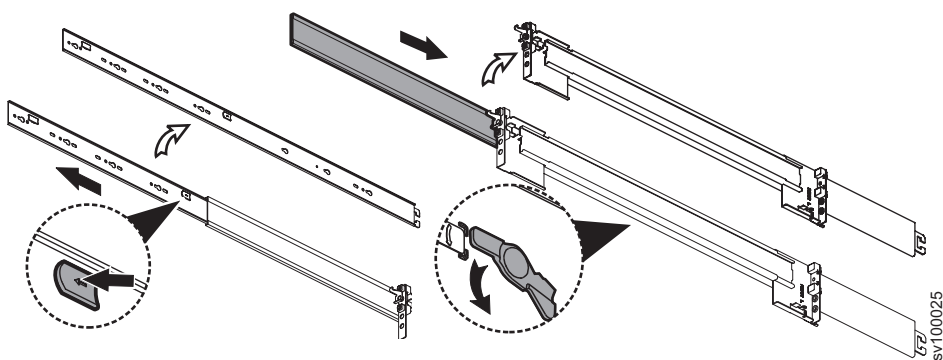

Figure 59. Detaching the inner rail section
3. Detach the inner section of one three-part rail, as shown in Figure 59.